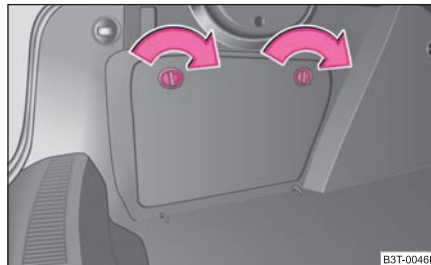
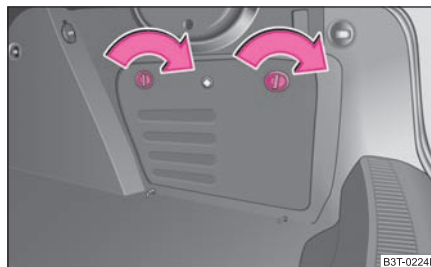

Fig. 107 Luggage compartment: Left side compartment
Fig. 108 Luggage compartment: Right side compartment
- You can open the compartment by turning the locks in the direction of arrow ⇒ fig. 107 ⇒ fig. 108.
In the right compartment ⇒ fig. 108 is located the CD changer*, the TV tuner* and the first-aid box. ■